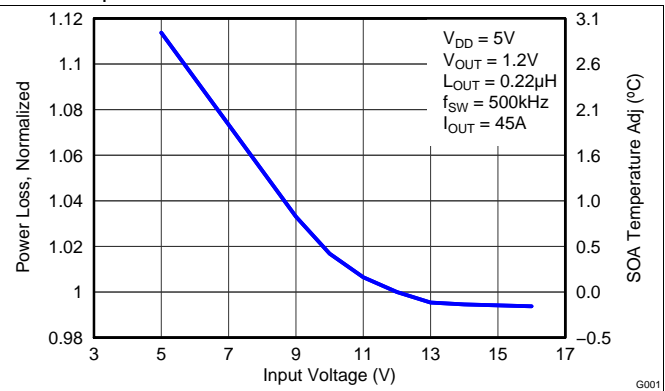

Figure 7. Normalized Power Loss vs Input Voltage
- Normalized Power Loss for input voltage \approx 1.07 (Figure 7)
- SOA adjustment for input voltage \approx 1.9°C (Figure 7)